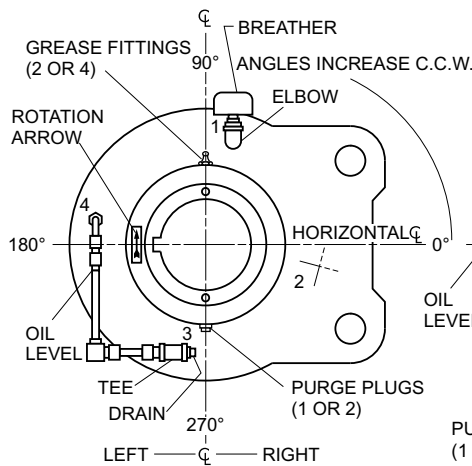
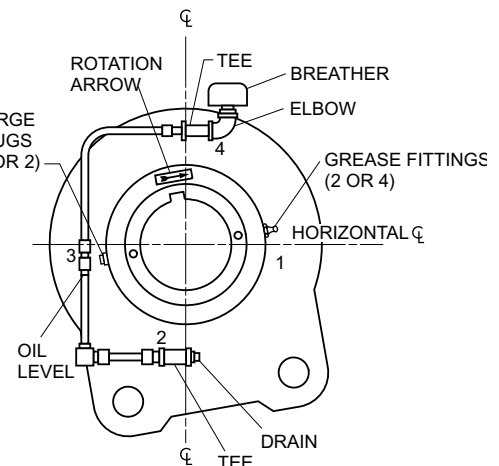

Figure 9
Figure 11
2. The lubrication lines, sight gauge and breather are removed for shipping, the pipe tees and elbows (see Figures 9, 10, and 11) are left in the end cover at the proper angles for simple reassembly. The tees and elbows are plugged for shipment.
3. The sight gauge/piping subassembly must be mounted in a position that allows direct viewing of oil level markings. Figures 9, 10, and 11 are examples of left-hand assembly configurations. Similar right-hand configurations are possible.
This plug may be in the backstop end cover (Figures 9 and 10) or it may be in the upper pipe tee (Figure 11). Install fitting but DO NOT tighten.